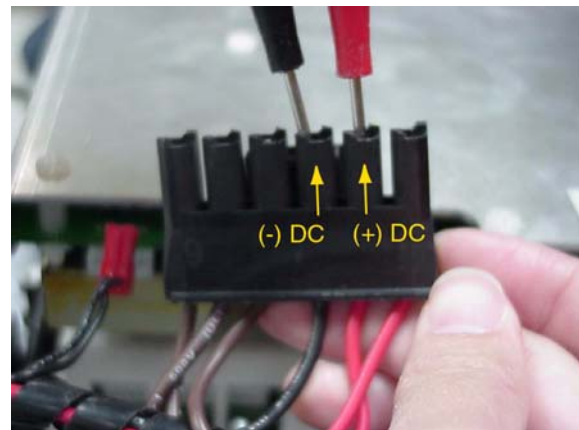

Figure 4-30 Measuring the DC input to the Soft-Start Controller
11. Place the red (+) meter probe to measure the (+) DC bus voltage, and the black (-) meter probe to measure the (-) DC bus voltage, as shown in Figure 4-30.